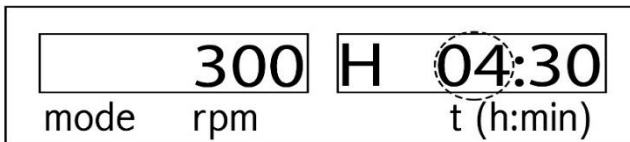

Figure 28: Setting the Hour
2. In this case, the hour's section becomes flashing and the letter H appears in the right display. (figure 28)